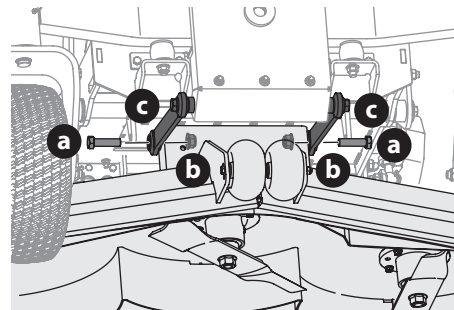

Fig. 51
5. Remove the hex screws (a) and flange lock nuts (b) securing the front deck control rods (c) to the deck (Fig. 51).